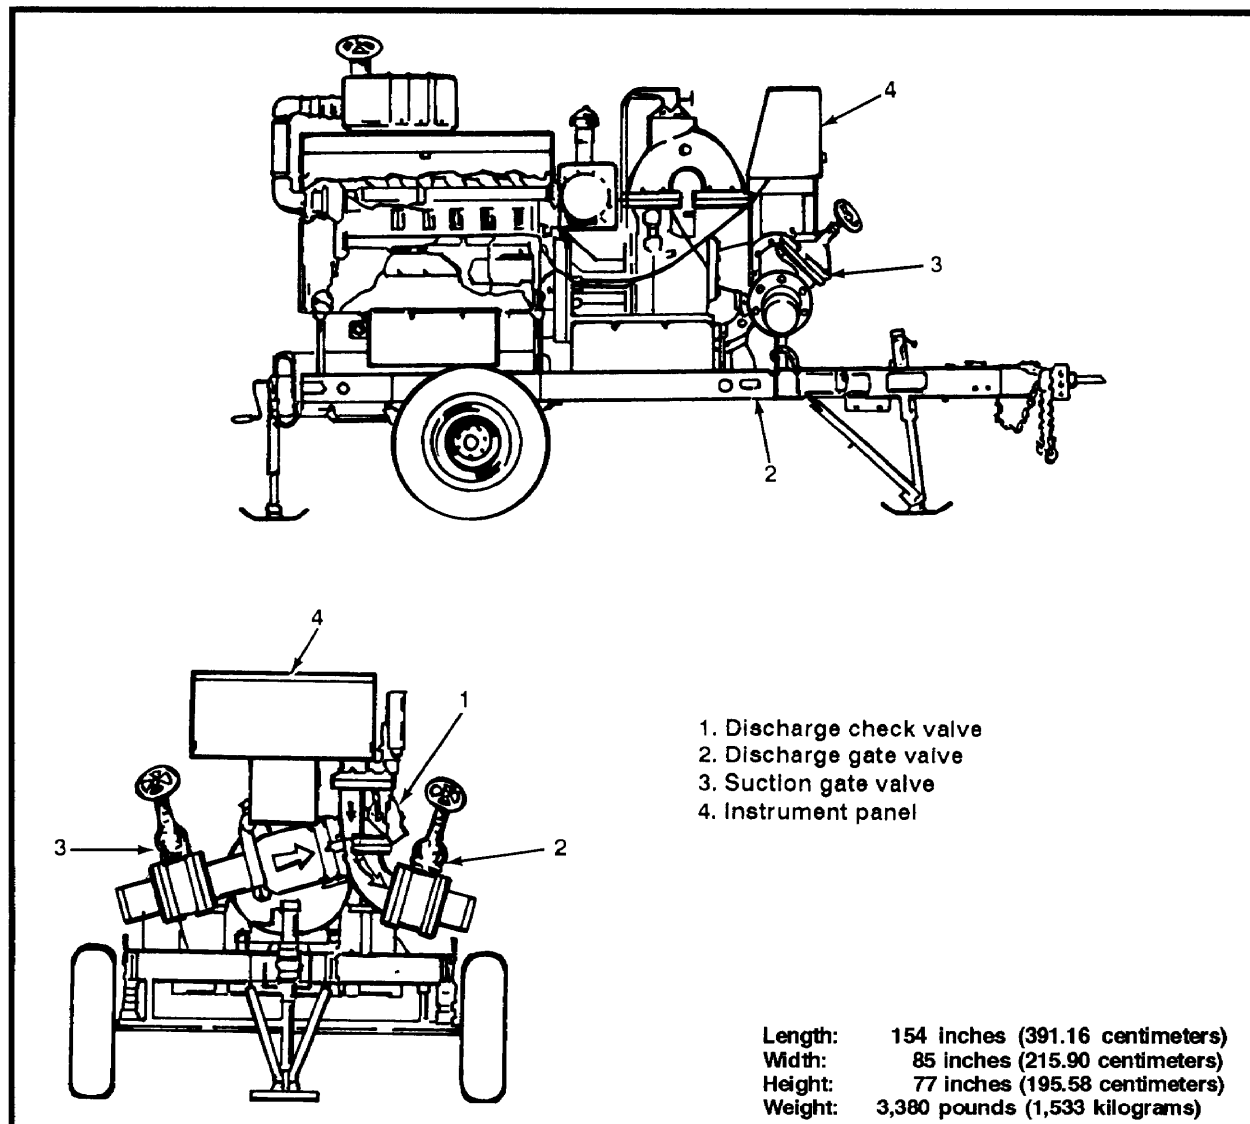
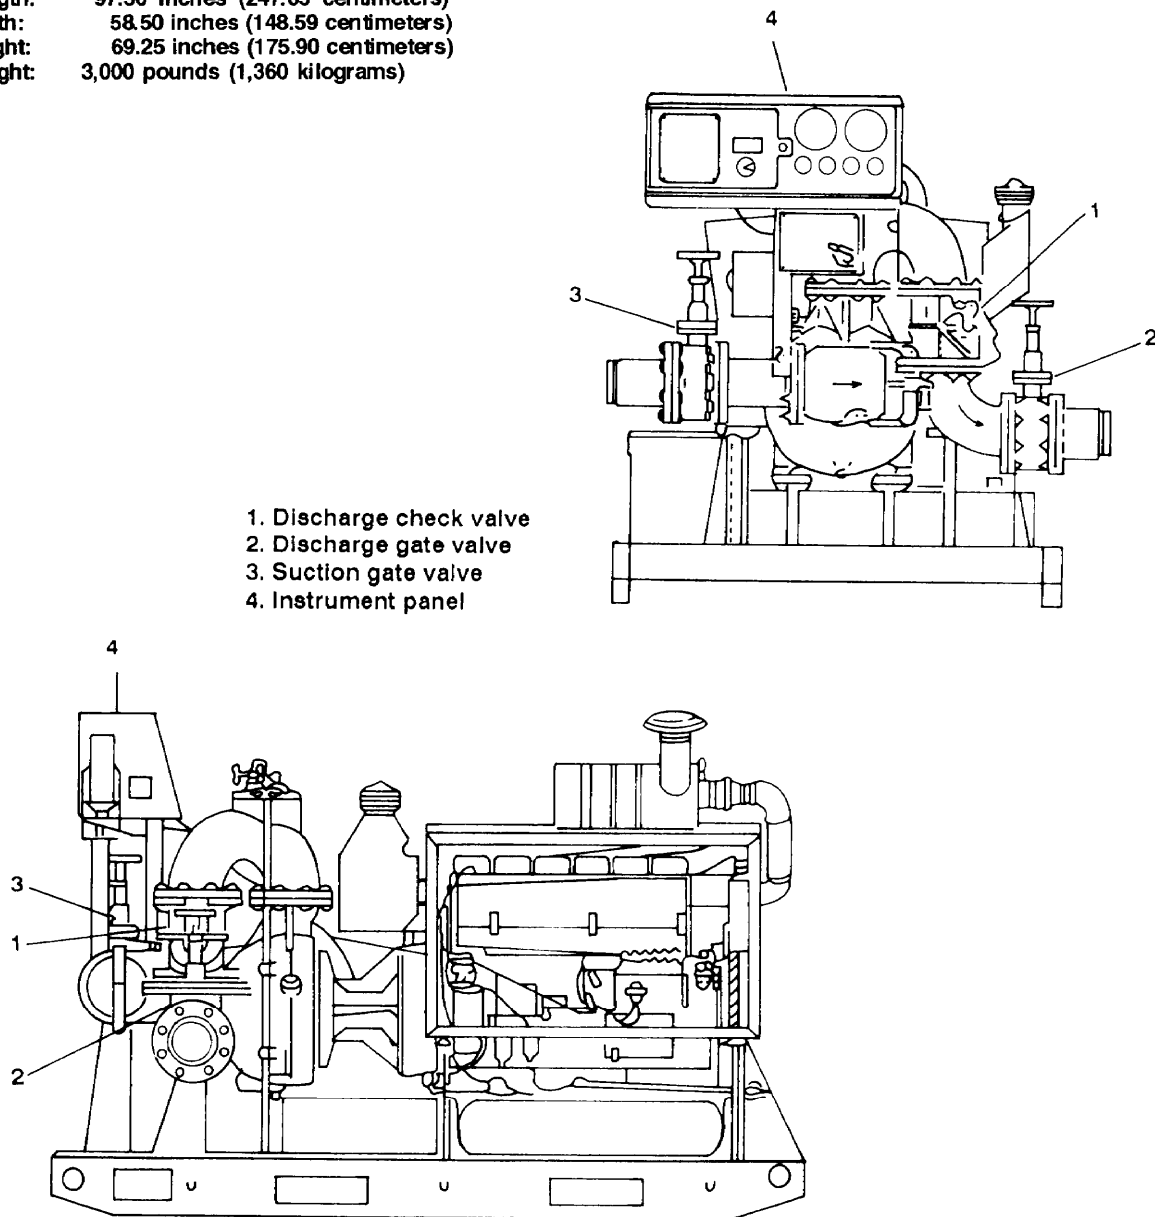

Figure 2-16. 6-inch, single-stage, wheel-mounted pump (600-GPM)
Figure 2-17. 6-inch, single-stage, skid-mounted pump (1,250-GPM)
(2) 6-Inch, Single-Stage, Self-Priming Pump (600- and 1,250-GPM). This is a diesel-engine-driven, air-cooled, self-priming, centrifugal pump. Two models of this pump are available. The 600-GPM model (Figure 2-16, page 2-12), intended for hose-line use within terminals, is wheel-mounted and can operate in the automatic-discharge, pressure-control mode if the suction pressure is greater than 2 psi. The 1,250-GPM skid-mounted model (Figure 2-17, page 2-13) can only be operated in the manual mode. It is intended for flood, transfer, and general utility service. The rated capacity is delivered when the assembly is positioned at any angle up to 15 degrees from the horizontal. Prime is established within 2 minutes on a 10-foot suction lift after initially filling the pump casing. The pump unit has the capacity to pump petroleum products or potable water. Potable water should not be pumped after the pump has been contaminated by pumping petroleum products.